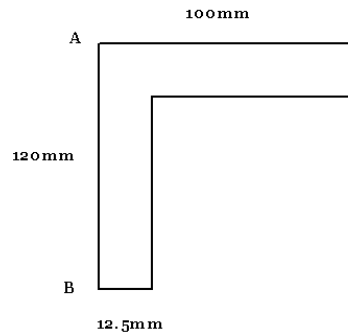

Figure 34
15. An unequal angle section shown in **Figure 34** is used as simply supported beam over a span of 2 m and uniformly distributed load of  $10\text{ KN/m}$ , inclusive of its own weight. Determine the maximum tensile and compressive stresses in the section